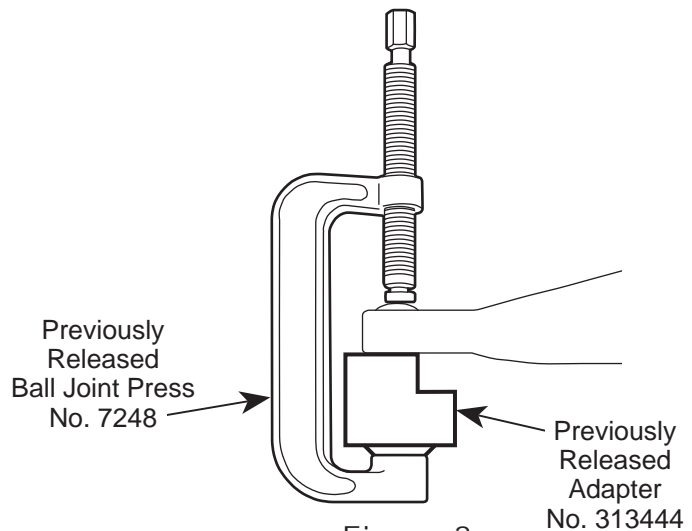

Figure 3
2. Assemble the ball joint press over the ball joint as shown in Figure 3.